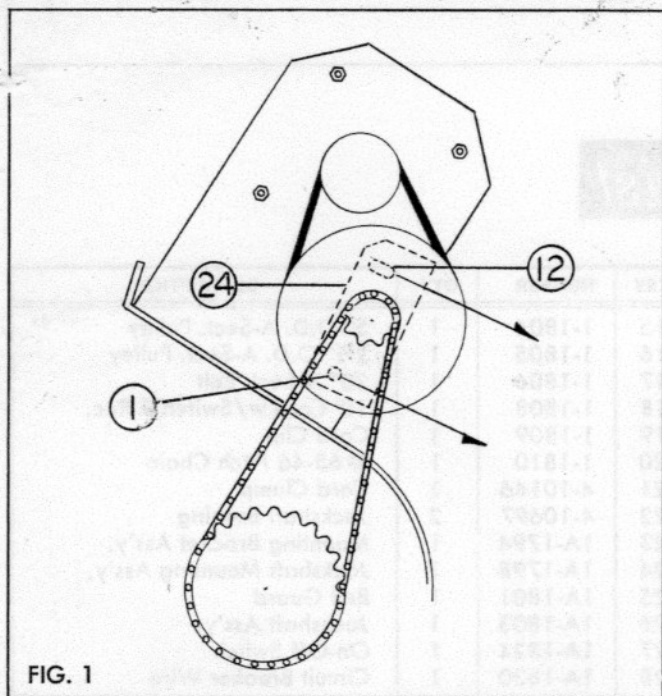

FIG. 1
1. Fasten Motor Mounting Bracket (23) to Chassis (A) with four Carriage Bolts (9) and Lock Nuts (11).
2. Mount Motor (B) to Mounting Bracket (23) using three  $\frac{3}{4}$ " Bolts (3) and Lock Nuts (6) in two Top Holes and Back Bottom Hole.
3. Install Jackshaft Housing Assembly (includes sprocket, shaft and pulley) to Motor Mounting Bracket and secure at top (not tight) with  $1\frac{1}{4}$ " Bolt (12), Flat Washer (10) and Lock Nut (6). Fasten at bottom with  $\frac{3}{4}$ " Bolt (1), Flat Washer (2) and Lock Nut (11).
4. Place Square Key (14) in Motor Shaft, Slip  $2\frac{1}{2}$ " Pulley (16) (Hub toward motor) on Motor Shaft and tighten Set Screw in Pulley Hub.
5. Install 20" A-Section V-Belt (17).
6. Install Drive Chain (20) on small Sprocket of Jackshaft and Drive Sprocket (C) on Brush Shaft of Sweeper.
7. With Belt and Chain installed, rotate and slide Jackshaft Bracket (24) in slots to obtain correct Belt and Chain tension. Then tighten Bolts (12) and (1). See Fig. 1.